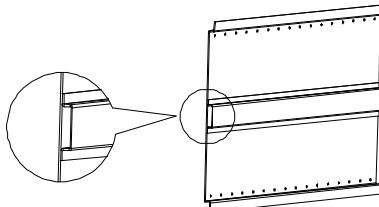

Figure 4-4 Welding a transverse reinforcement beam on the back of the backplane
- ❖ The backplate can be reinforced if necessary. It is recommended to weld a transverse reinforcement beam on the back of the backplate (as shown in Figure 4-4). This can significantly improve the load-bearing capacity of the backplate and enhance the overall structural stability.